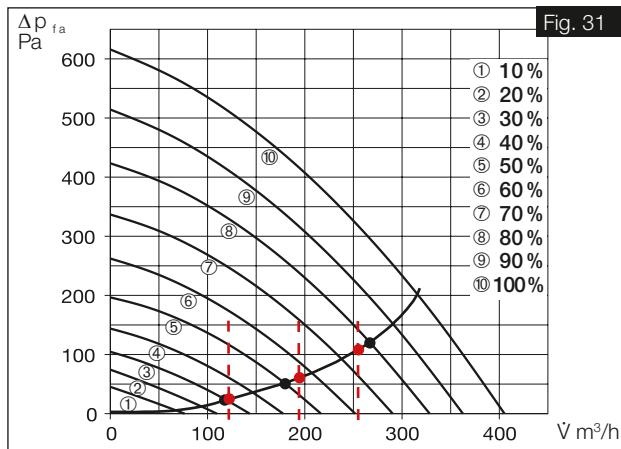
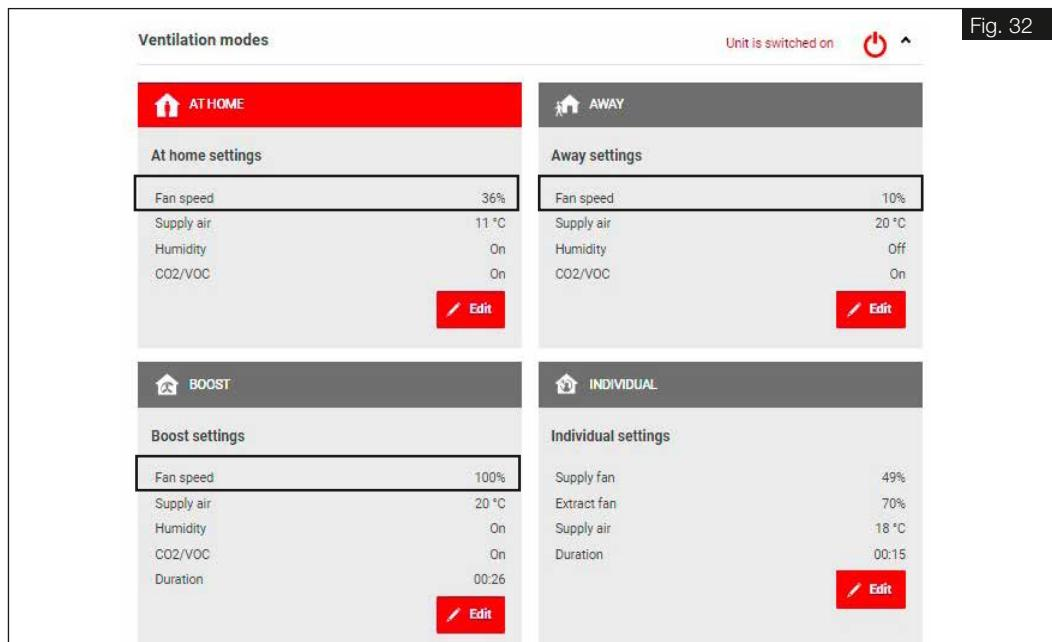

Fig. 31
Fig. 32
1. Enter the flow rates from the design calculation for the three ventilation profiles “At home”, “Away” and “Boost” in the unit characteristic curve for supply and extract air (cf. Fig. 31).
① We recommend entering the following values in the ventilation profiles:
2. The approximate fan powers to be set (in %) can be read from the ventilation profiles at the points of intersection of the flow rates and the system characteristic curve. Enter these in the corresponding ventilation profile via the easy-Controls software or the control element KWL-BE Touch (cf. Fig. 31 and Fig. 32).